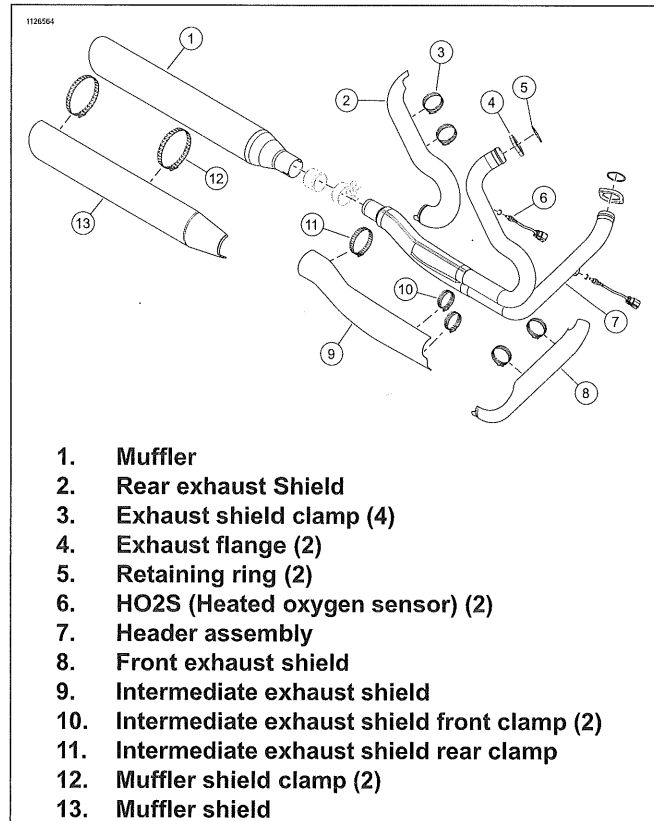

Figure 6-46. Exhaust System (Two Into One)
1. See Figure 6-46. Remove HO2S (Heated oxygen sensor) (2). See HEATED OXYGEN SENSORS (HO2S) (Page 6-31).
- a. Remove exhaust shield rear clamp (11) and exhaust shield front clamps (10).
- b. Remove intermediate exhaust shield (9).
4. Remove muffler (1). See MUFFLERS (Page 6-32)
- a. Remove retaining rings (5).
- b. Remove exhaust flanges (4).
1. See Figure 6-46. Install exhaust flanges.
- a. Install exhaust flanges (4).
- b. Install Retaining rings (5).
2. Install muffler (1). See MUFFLERS (Page 6-32).
- a. Apply anti-seize lubricant to screws (7).